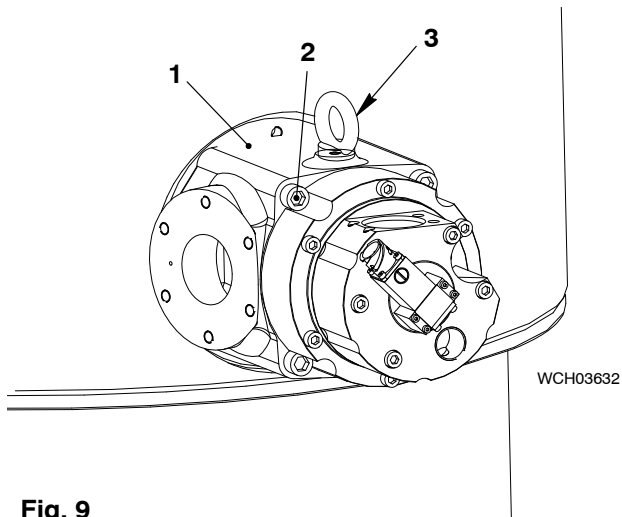

Fig. 9
- 3) Install the M10 eye bolt (3, Fig. 9) to gas admission valve (1).
- 6) Remove the four screws (2).